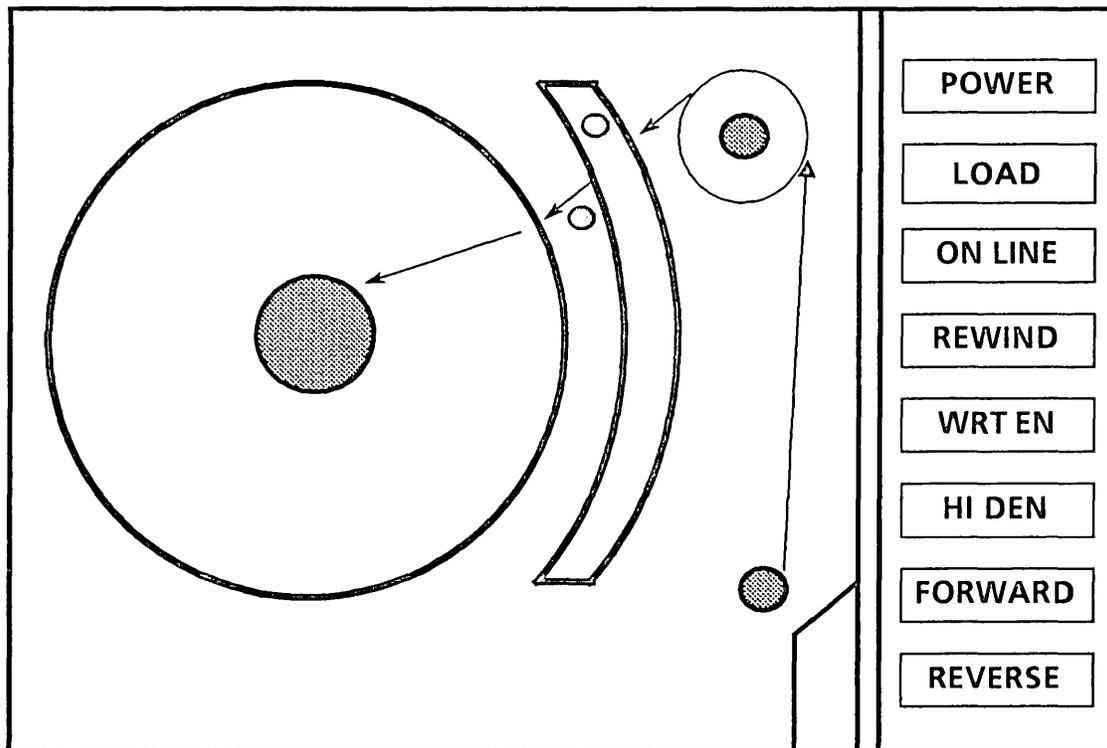

Figure 1.4 - Tape Drive Operating Panel
1. Press the **POWER** switch at the top of the tape drive operating panel (refer to *Figure 1.4* below). The light indicates that the system is on.